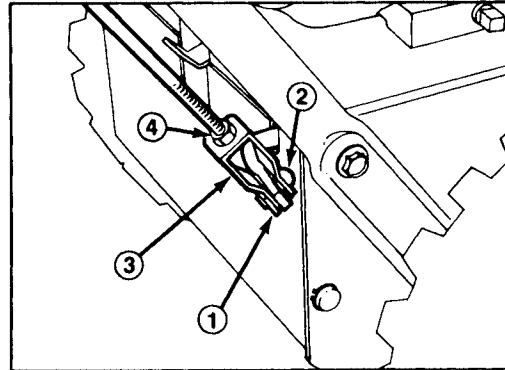

Figure 23
2. Remove cotter pin and clevis pin securing clevis to lower control rod (Fig. 23).